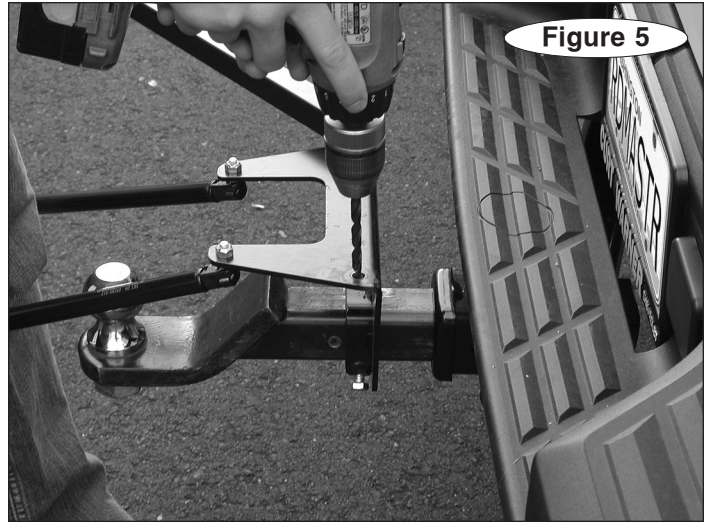

Figure 5
5. Drill out the original threaded collar bolt attachment holes to 3/8" (Figure 5).